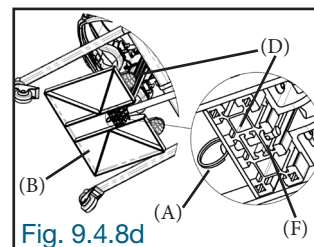

Fig. 9.4.8d
Insert the quick-release pin (A) under the foot plate (B), ensuring that the pin lock (F) is completely disengaged from the other side of the frame (D) so that it is properly locked (Fig. 9.4.8d).